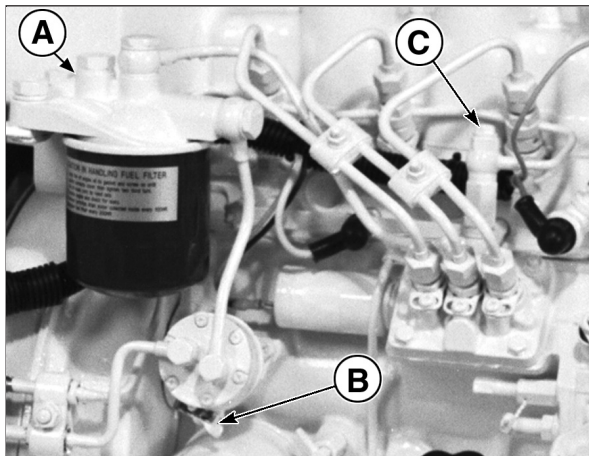

Figure 12: M673 Fuel System.
2. Loosen bleed screw "A" (Figure 12) on top of the filter. Pump hand primer "B" on fuel lift pump until pure fuel (no bubbles) escapes from bleed screw "A". Tighten bleed screw "A".